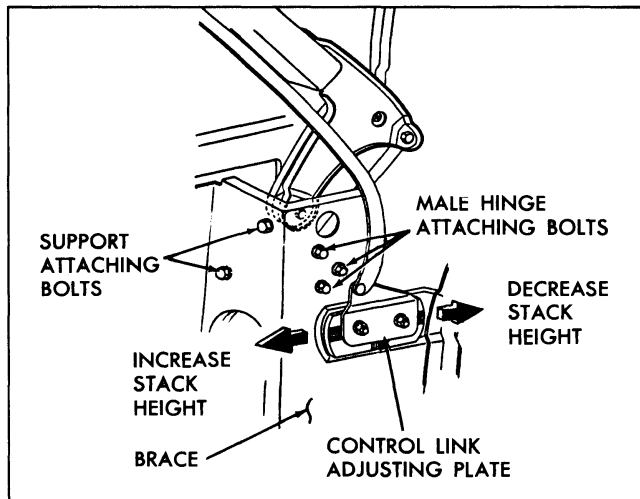
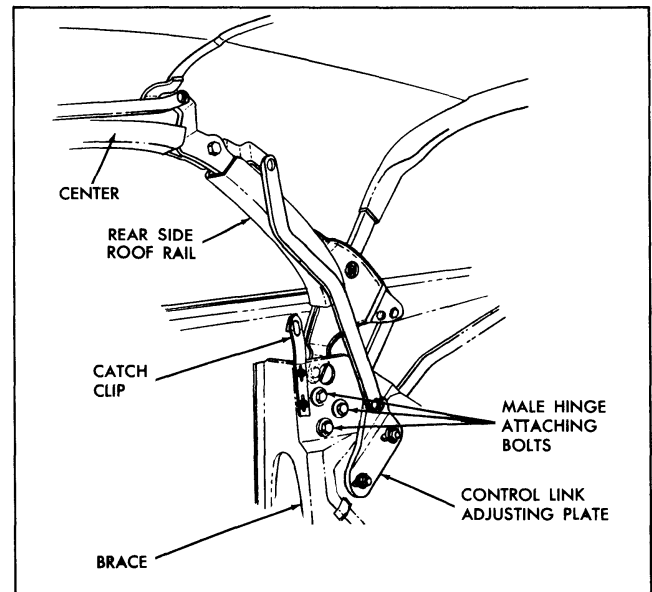

Fig. 22-25 View "C" in Fig. 22-21
Fig. 22-26 View "C" in Fig. 22-21
plate. On "B" styles Fig. 22-25; on "Y" styles see Fig. 22-26.
b. Loosen three male hinge assembly attaching bolts. On "B" styles Fig. 22-25 on "Y" styles Fig. 22-26.
b. Loosen male hinge assembly attaching bolts and, on "B" styles, loosen male hinge support front attaching bolts. On "B" styles see Fig. 22-25 on "Y" styles see Fig. 22-26.
2. Male hinge assembly misaligned.	Adjust male hinge assembly rearward ("B" Fig. 22-25; "Y" Fig. 22-26).
2. Male hinge assembly misaligned.	Adjust male hinge assembly forward ("B" Fig. 22-25; "Y" Fig. 22-26).
5. On manual tops, due to improperly adjusted catch clips.	Adjust catch clips downward as required (Fig. 22-26).
3. On manual tops, due to improperly adjusted catch clips.	Adjust catch clips upward as required (Fig. 22-26).